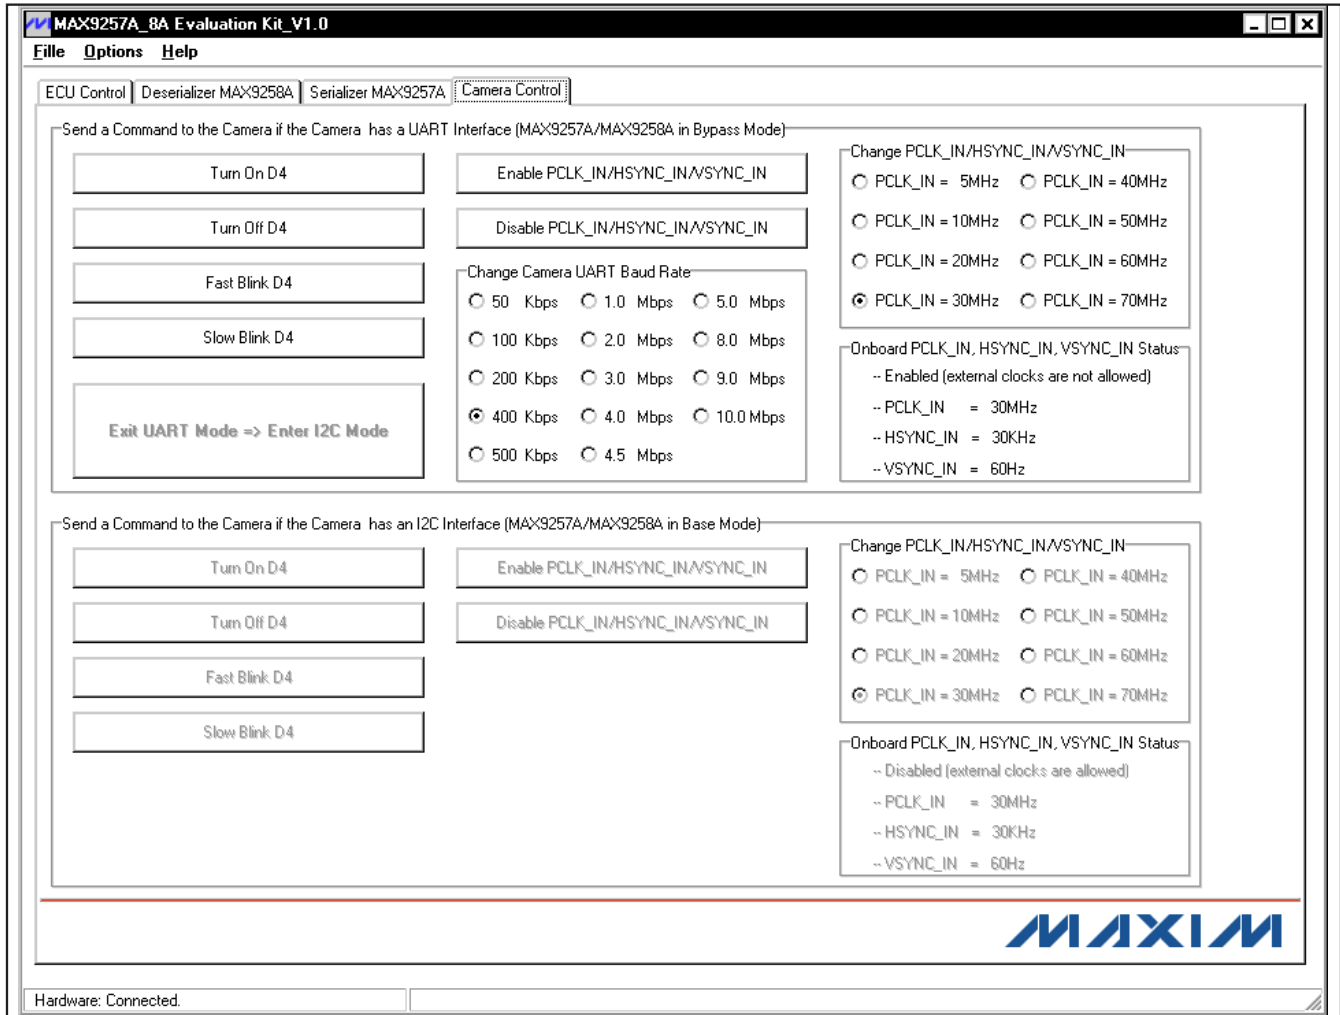

Figure 6. MAX9257A/MAX9258A Evaluation Kit Software—Camera Control Tab
- 23) Click on the **Camera Control** tab to move to the **Camera Control** tab sheet (Figure 6).
On the **Camera Control** tab sheet (Figure 6), the ECU can communicate to the emulated camera during a control-channel session.
- 10) Navigate to the **Camera Control** tab sheet (Figure 6). Press the **Turn On D4**, **Turn Off D4**, **Fast Blink D4**, and **Slow Blink D4** buttons, respectively, to verify that the ECU is communicating to the camera properly.
- 11) Navigate to the **Camera Control** tab sheet (Figure 6). On this tab sheet, all ECU commands to the camera follow this order in one control-channel session:
- 6) Navigate to the **Camera Control** tab sheet (Figure 6) and press the **Exit UART Mode → Enter I²C Mode** button (this button is available only when CTO is not equal to 0).